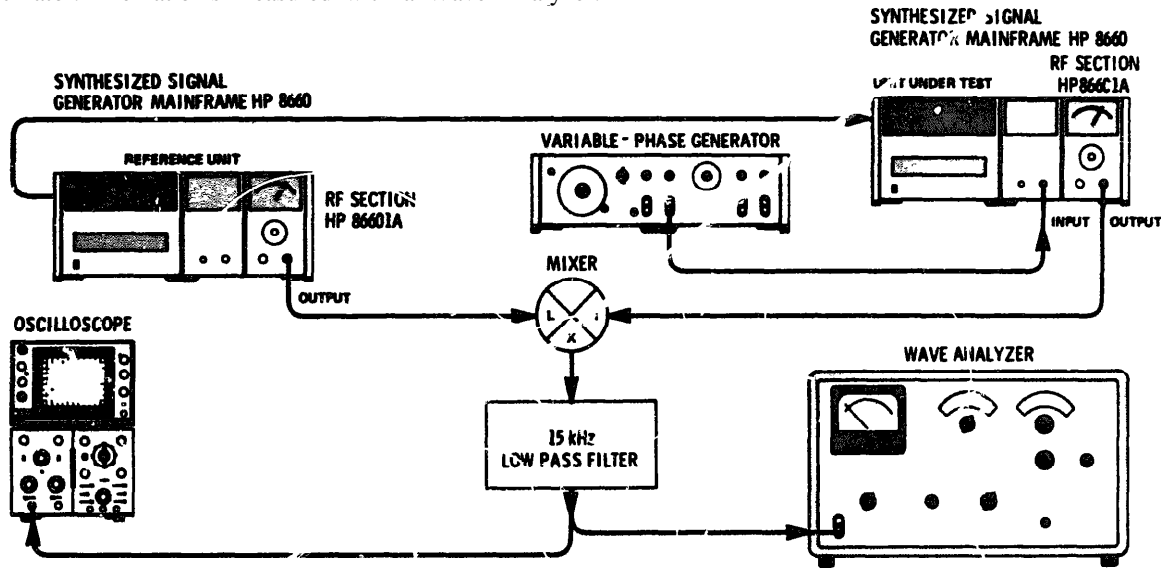

Figure 4-12. Incidental PM Test Setup
1. Connect the equipment as shown in **Figure 4-12**.